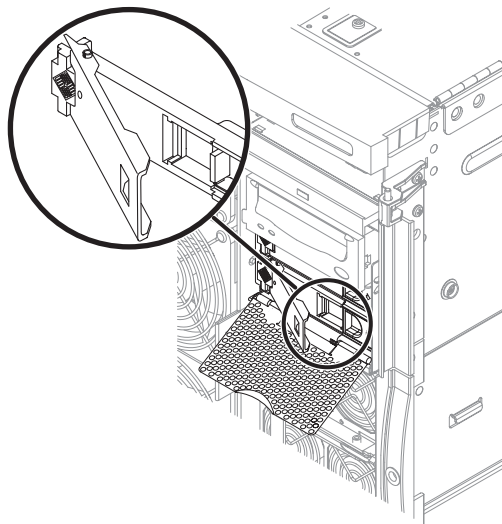

FIGURE 6-3 Ejecting the Hard Disk Drive
8. Extend the drive handle to disconnect the drive from the system (FIGURE 6-3).